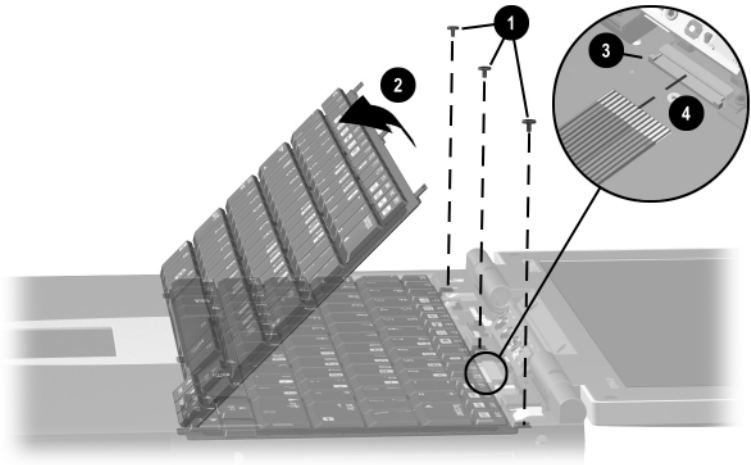

Figure 5-7. Removing the Keyboard
3. Remove the three black TM2 × 4 screws ❶ that secure the keyboard to the top cover and base enclosure (Figure 5-7).
4. Swing the back edge of the keyboard up and forward ❷ and rest the keyboard on the top cover.
5. Release the ZIF connector ❸ to which the keyboard cable is connected and disconnect the keyboard cable ❹.